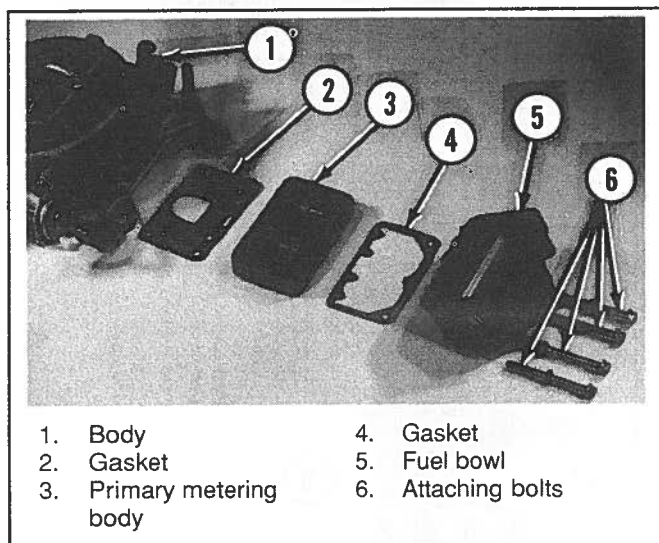

Figure 7-81. Removing Metering Bodies
7. Remove gaskets and primary and secondary metering bodies from carburetor (Figure 7-81 and 7-82).